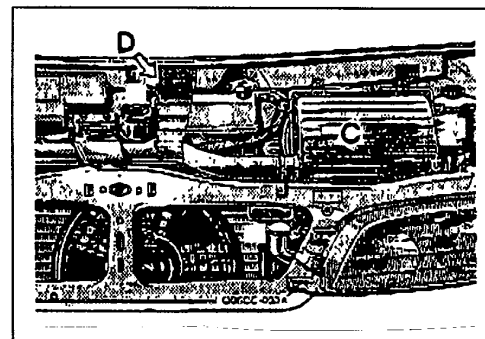

Figure 7
4. Install new air cleaner (C)
6. Install new air intake duct (D) on the air intake duct cover and fix it with 2 screw clamps & 1 X-mas tree fastener (refer to figure 7)